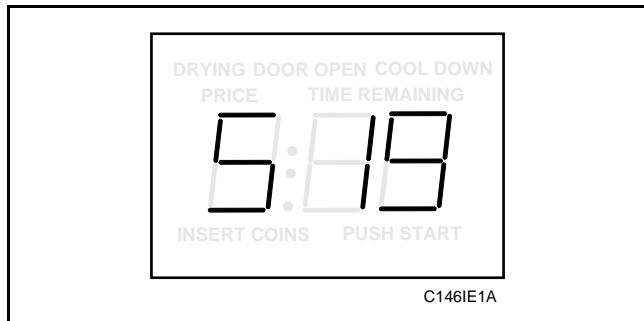

Figure 82
2. While pressing and holding the HIGH TEMP pad with one hand, press the MED TEMP pad with the other hand. Programmable option number 1, (Audio Signal “SIg”), will appear in the VFD, *Figure 82*.